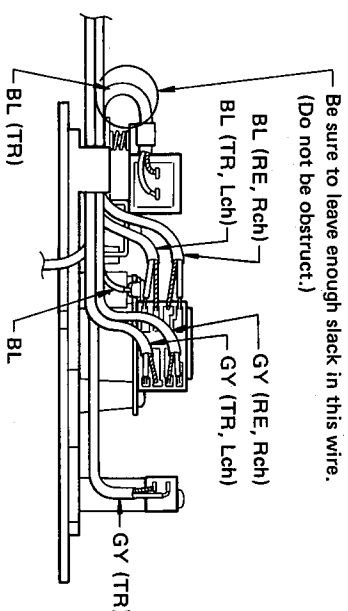

Fig. 9
- * Refer to fig. 9 when connecting them.